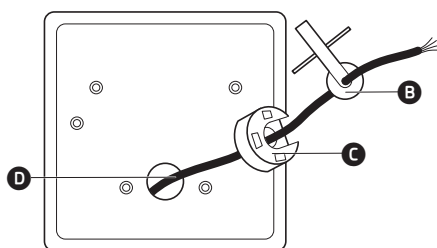

Fig. 4 String, membrane and rocker arm
- 4 Put the new pull cord string **D** through the hole in the cover, through the new membrane **C**, and through the hole in the rocker arm **B** (Fig. 4)